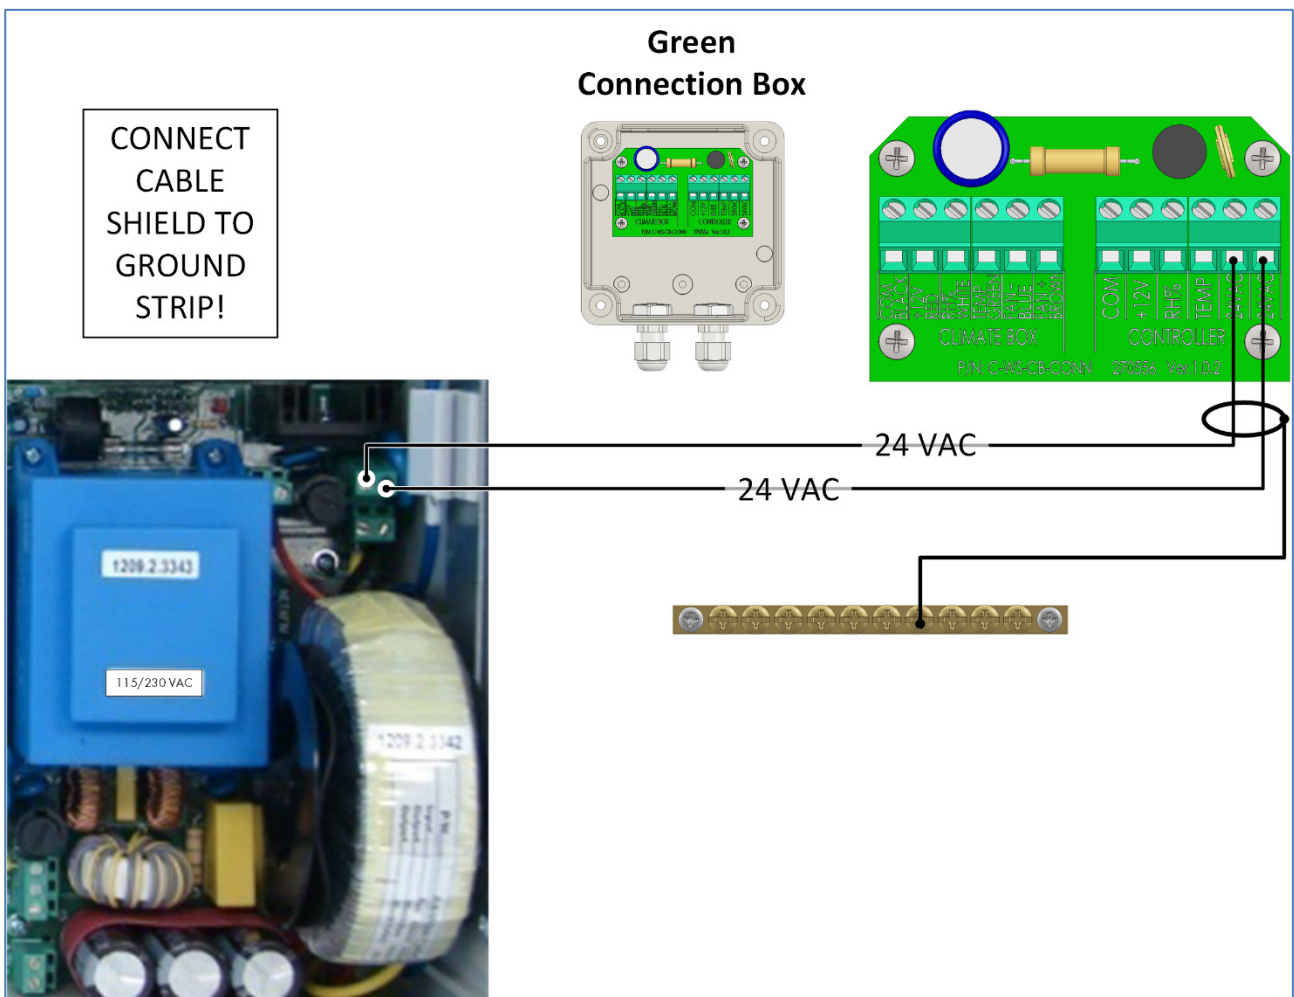

Figure 5: Powering the Fan
- Refer to Figure 5 for details on the fan power supply.